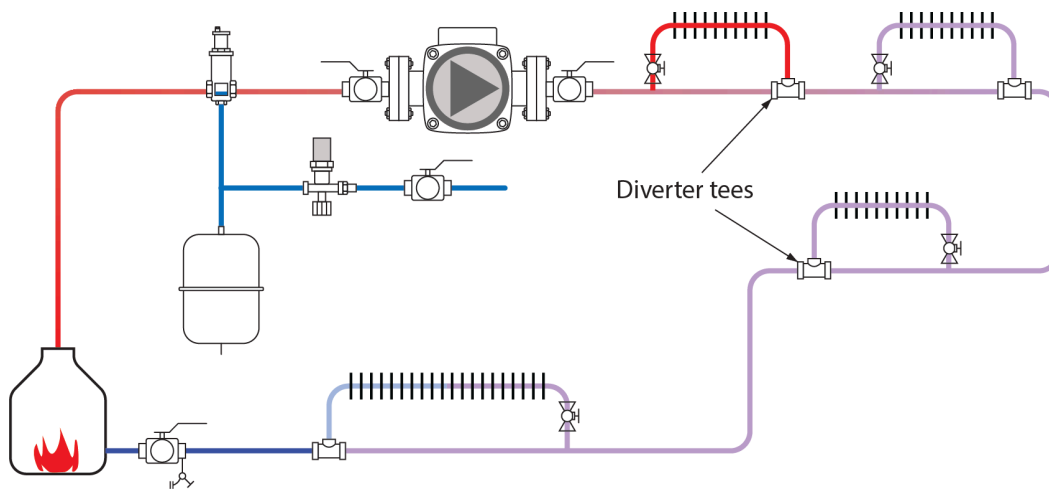

Figure 3 Diversion tee system. (Skilled Trades BC, 2021) Used with permission.
- HPAC Magazine. (2017, December 18). Figure 3: Purging hydronic circuits [digital image]. In Siegenthaler, J. (author), "Hydronic circuit purging: The basics." Retrieved from <https://www.hpacmag.com/features/purging-hydronic-circuits/attachment/hpac-dec-2017-fig-3/>
A diversion tee or Monoflo system is a one-pipe system, but the heat transfer units are placed on branch circuits, parallel to the main supply pipe. Any of the units may be shut off individually without disturbing the flow of hot water in the rest of the system. The layout of a one-pipe diversion tee system is shown in Figure 3.